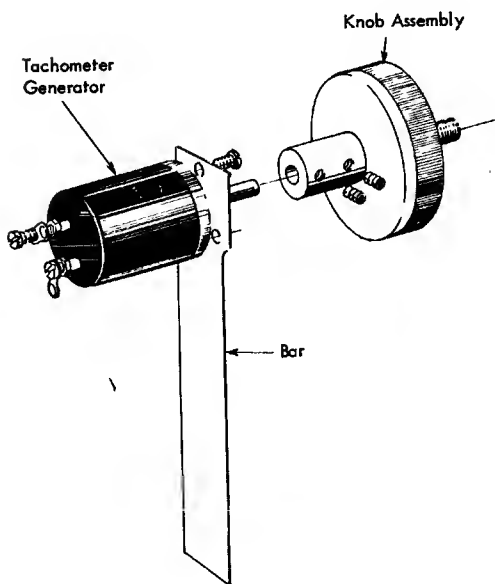

Figure 55. Tachometer Assembly
**Reel Drive Clutch Energizing Voltage:** A tachometer generator is needed to make the necessary magnetic clutch current adjustment. Figure 55 shows the tachometer assembly, which is the one used on IBM 720 and 1403 Printers.